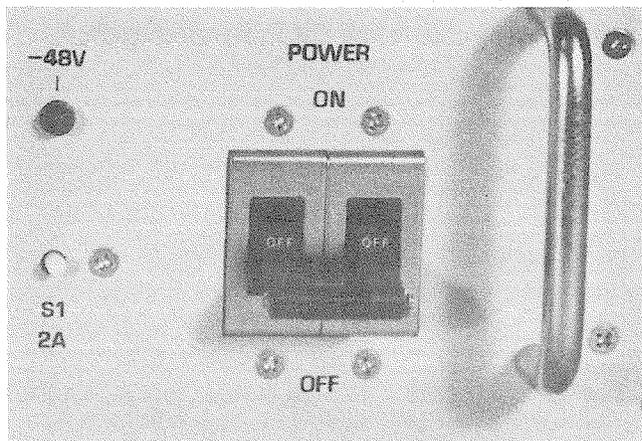

FIGURE 35—DPSA POWER SWITCH
- a) Be sure the main power switch on the DPSA is in the OFF position (Figure 35), and plug the AC power cord into the outlet.